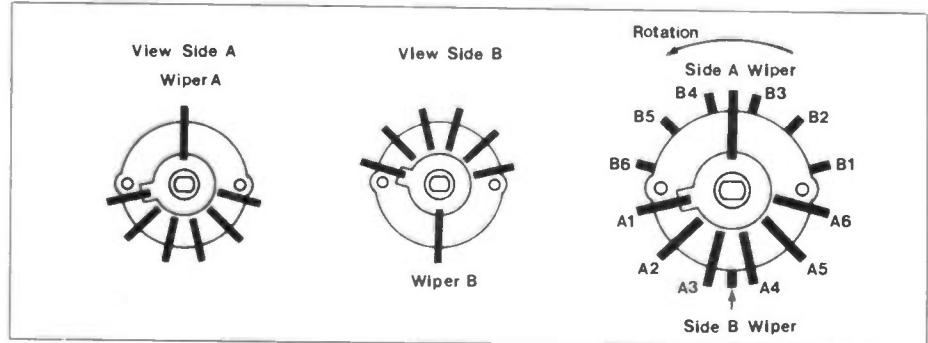

Figure 12. 2-Pole 6-Way Wafer
Three switching stages are needed for each channel and double sided wafer switches are recommended as shown in Figure 12. The make-shaft can be set to 5-way operation by re-inserting the locating peg as Figure 13 and each wafer slides over the shaft with their Side B offered first and facing the switch body housing (Figure 14). Figure 15 details wiring connections to and from and between both modules. Wiring from MXR 29 to wafer switches should be screened (multicore) and also screen VR1 wiring. MXR 29 0V(E) tracks are not commoned between left and right channels and separate 0V connections are required for this. Mixer Coil wire connections are colour-coded and should be fitted into their respective PCB positions as shown. The presets VR2 and VR102 are set to a position which maintains a suitable signal level throughout the module system, but it is not advisable to keep the wipers at the maximum – anticlockwise – position as the circuit is liable to oscillate due to the high gain characteristics of the input